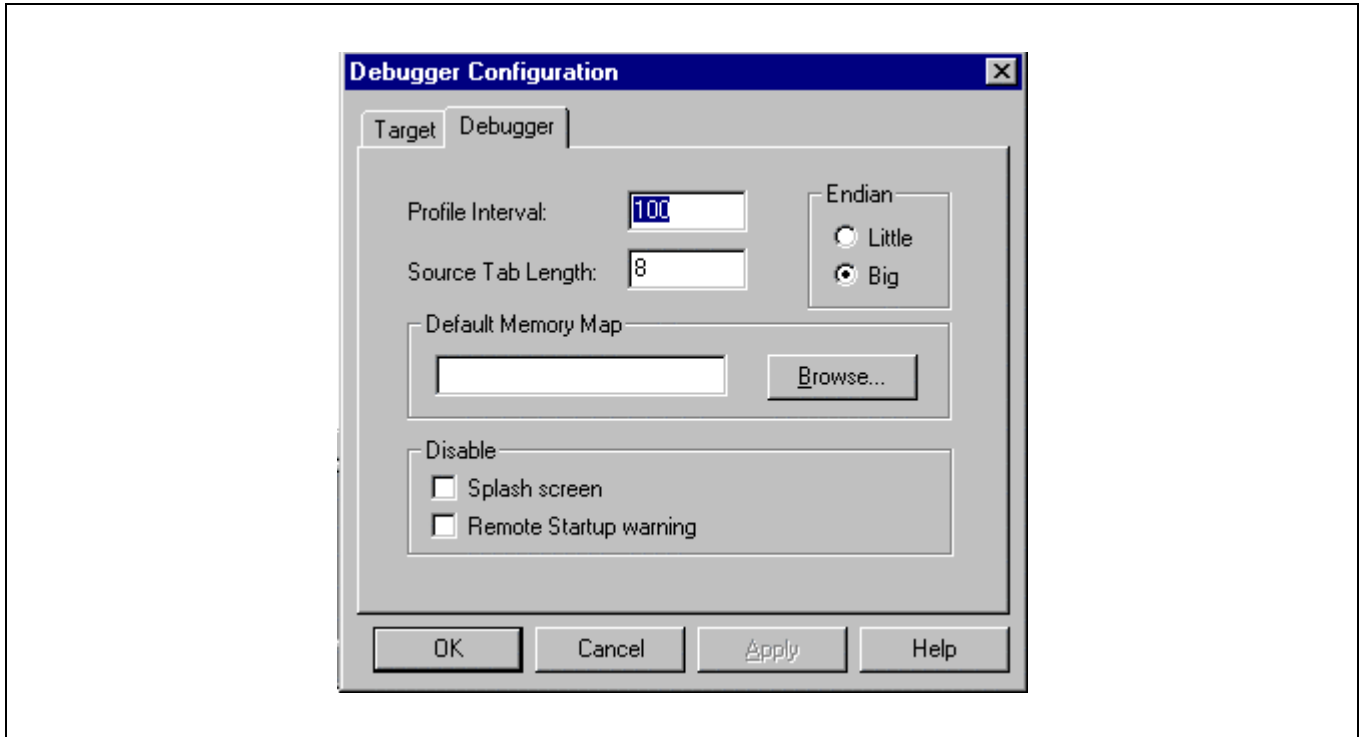

Figure 2-17. Debugger Configuration: Debugger Page
5. Select Debugger page from Debugger Configuration dialog box (Figure 2-17) and configure it.